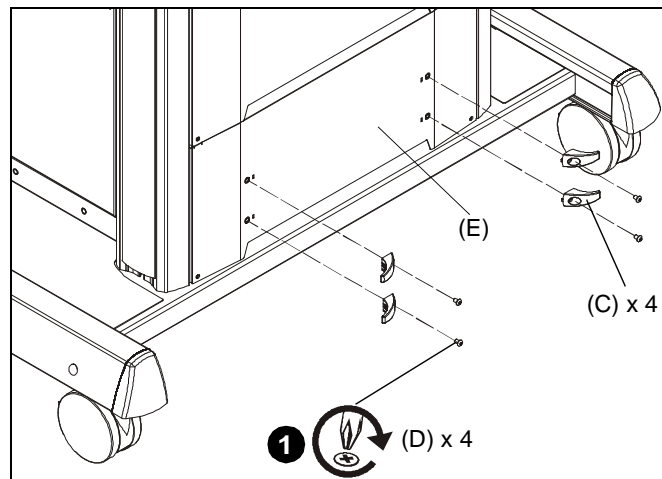

Figure 14
1. Use four 1/4-20 x 1/2" Phillips pan machine screws (D) to attach four cable hooks (C) to bottom of cart assembly (E). (See Figure 14)